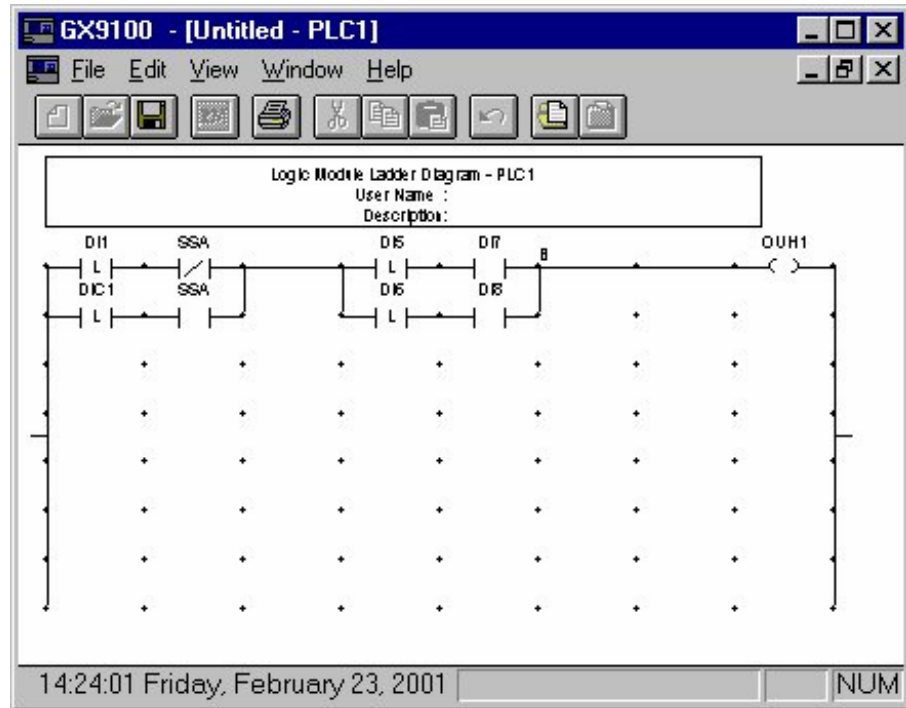

Figure 5-9: Ladder Diagram with PLC Instructions and Associated Values
- Continue to add associated variables to all remaining logic instructions (Figure 5-9).